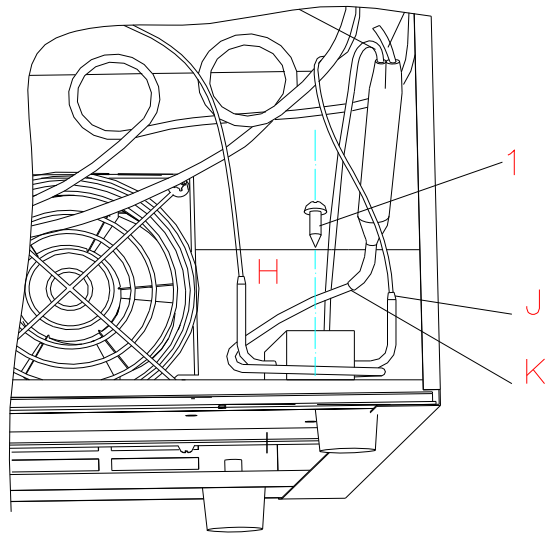

Fig. 8
a. Heat the solder joint H,K,J with soldering iron and take apart the valve. (Fig. 8)
b. Remove 2 screws(1) (Fig.8)